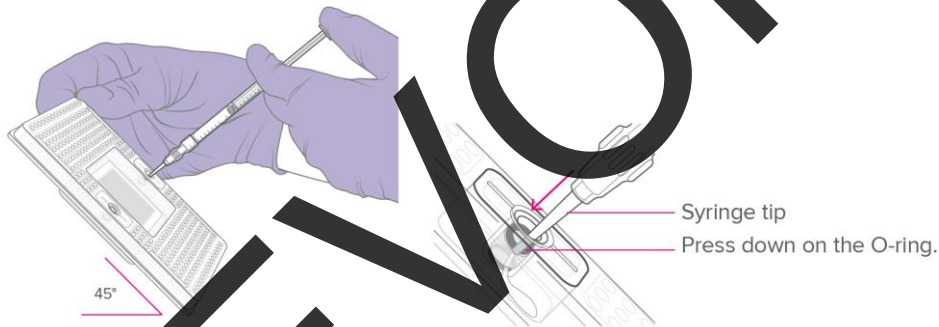

Figure 6. Injecting control line fluid into the accumulators on the 96.16 IFC
- 4 Holding the IFC at a 45° angle, insert the syringe tip into an accumulator (Figure 6).
- 5 Use the syringe tip to press down gently on the black O-ring to move it (Figure 6). Visually confirm that the O-ring has moved.